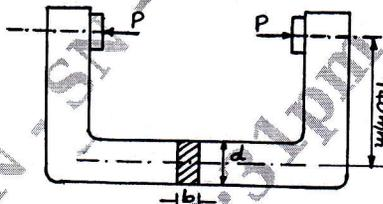

Fig.Q1(c) (10 Marks)
c. A C-clamp shown in Fig.Q1(c) carries a load of 25 kN. The cross-section of the clamp is rectangular and the ratio of depth to width (d/b) is 2:1. The clamp is made of cast steel of grade 20-40 ($\sigma_y = 400 \text{ N/mm}^2$) and the factor of safety is 4. Determine the dimension of the cross section of the clamp.